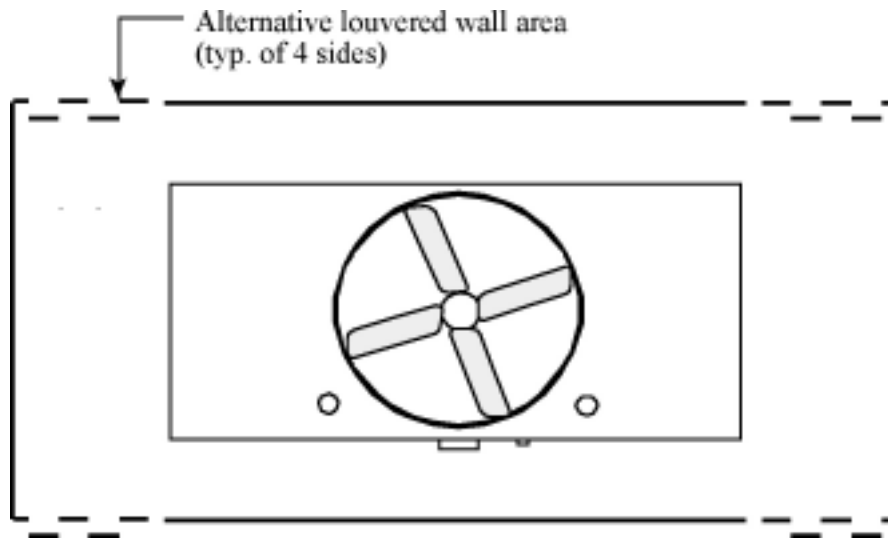

Figure 10: Plan view of dual air inlet unit in enclosure with alternate louver arrangement
- c. If the available space does not permit the unit can be arranged with the air intakes facing the louvered or slotted walls and the enclosure cannot be modified to permit such an arrangement, consider the alternative illustrated in Figure 10 or 11. This arrangement should be restricted to one-cell or two-cell installations. The effective area of the louvers is only the length extending beyond the width of the tower.